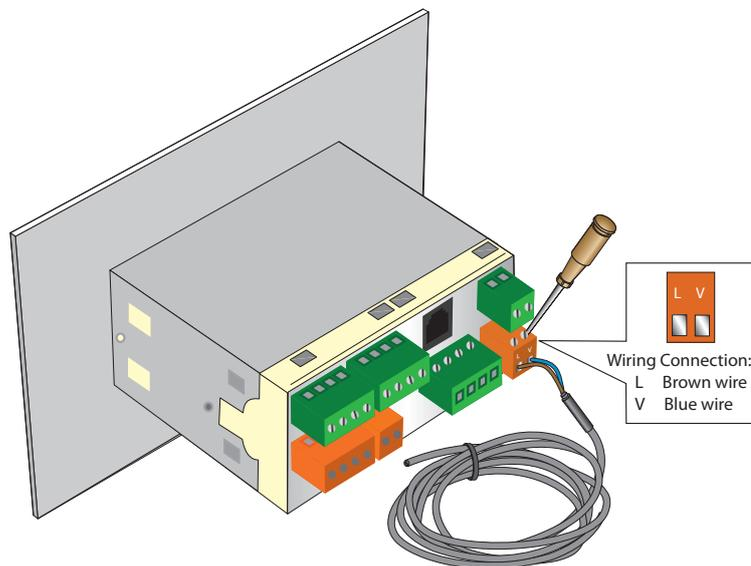

Figure 16 *High Voltage Power Supply Connections*
Connect the power supply to the monitor (1) as shown in *Figure 16*.